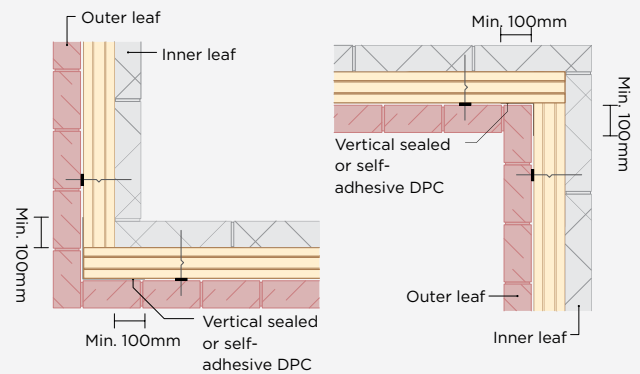

FIGURE 4 - EXTERNAL CORNER DETAIL
11. Figures 4, 5 & 6 show examples of external, internal and mitred corner details. Installation should take place as follows:
- The boards at the corner should be butt-jointed. All presenting edges must be flush-cut by removing, at minimum, the groove or tongue. It is important that all cuts are accurate to ensure all edges are butted tightly with no air gaps, thus achieving continuity of the thermal envelope around the corners (see Figures 4,5 & 6).
- All corner details should incorporate a vertical sealed or self-adhesive DPC with a minimum 100mm overlap beyond the board ends at all courses (see Figures 4, 5 & 6).